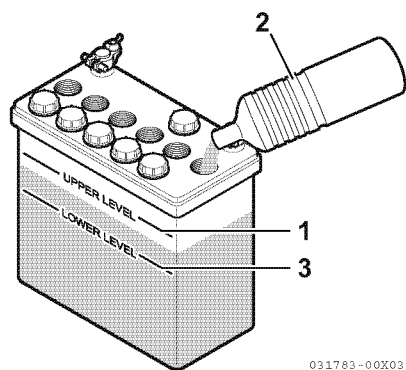

Figure 6
- When the amount of fluid nears the lower limit (3, **Figure 6**), fill with distilled water (2, **Figure 6**) so it is at the upper limit (1, **Figure 6**). If operation continues with insufficient battery fluid, the battery life is shortened, and the battery may overheat and explode. During the summer, check the fluid level more often than specified.